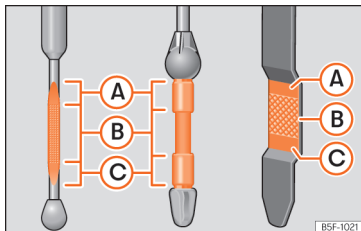

Fig. 221 Engine oil dipstick.
- Then pull it out once more and check the oil level **»» Fig. 221**. Top up with engine oil if necessary.
- When the oil level reaches at least zone » **Fig. 221 B**, unscrew the engine oil filler cap carefully » **!**.
If the oil level is above area » **Fig. 221 A**, do not start the engine. This could result in damage to the engine and catalytic converter. Contact a specialised workshop.
The oil level must never be above zone » **Fig. 221 A**. Otherwise oil can be drawn in through the crankcase breather and leak into the atmosphere via the exhaust system.